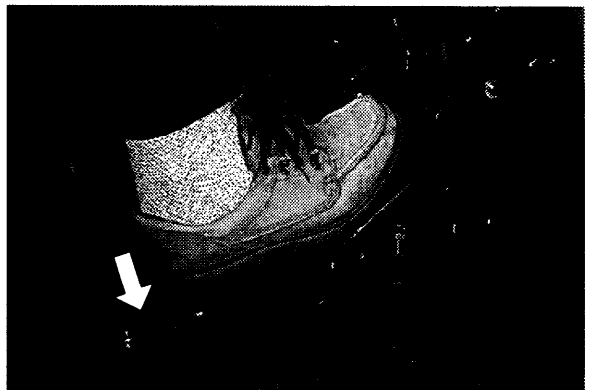

Figure 20
8. To operate machine in reverse, press bottom of directional pedal with heel of foot (Fig. 20).